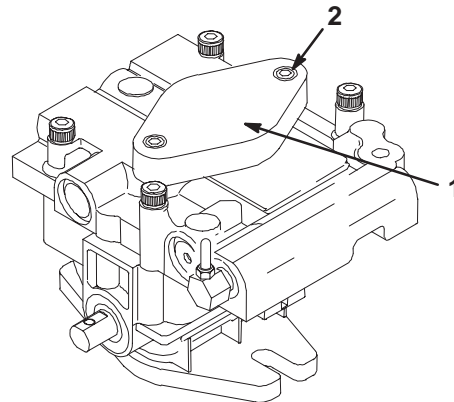

Figure 47
Note: It is necessary to lightly touch the charge pump cap (Fig. 47) with your hand to check the pump temperature. If the cap is too hot to touch, turn off engine. The pumps may be damaged if the pump becomes too hot. If either drive wheel still does not rotate continue to next step.
6. To "prime" charge pump, loosen two hex socket head capscrews (Fig. 47) 1-1/2 turns only. Make sure engine is not running. Lift charge pump housing upward and wait for a steady flow of oil to flow out from under housing. Retighten capscrews. Do this for both pumps.